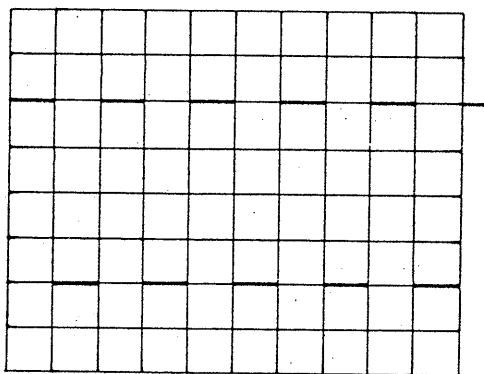

Figure 3
- 5) Set the AC-GND-DC switch in the AC state. A waveform as shown in Figure 3 will be displayed on the CRT screen.